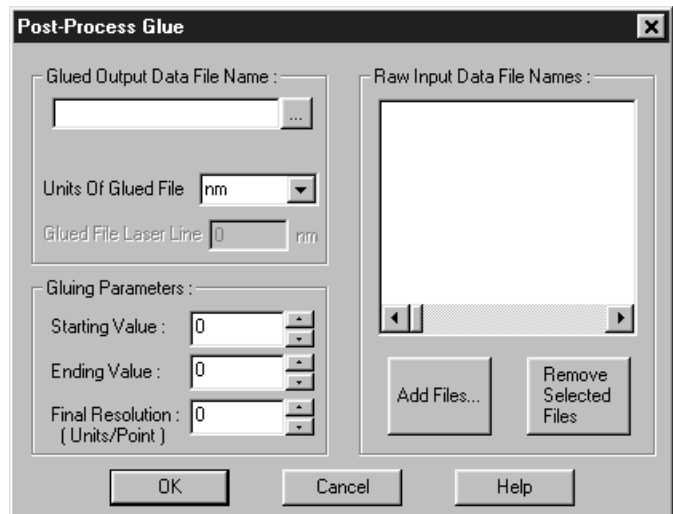

Figure 128. Post-Process Glue dialog box
2. From the Process menu select **Glue**. This will open the Post-Process Glue dialog box (Figure 128). *For more information, see the online Help for this dialog box.*